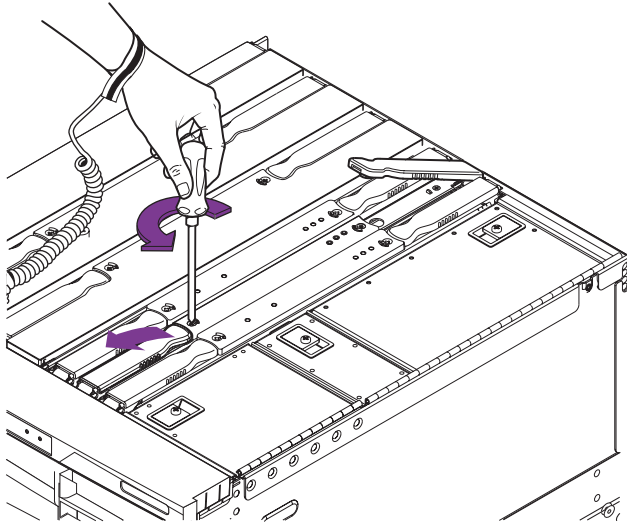

FIGURE 11-2 Unlocking the L2 Repeater Board Ejector Levers
8. Unlock the ejector levers with a Phillips no. 2 screwdriver (FIGURE 11-2).